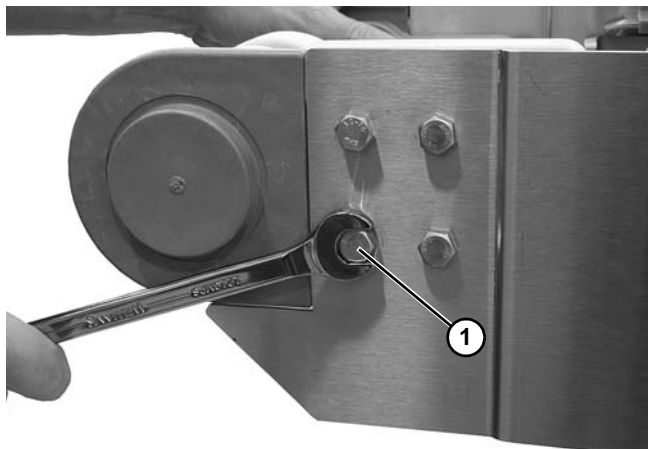

Figure 63
2. Remove the four headplate bolts (Figure 63, item 1).